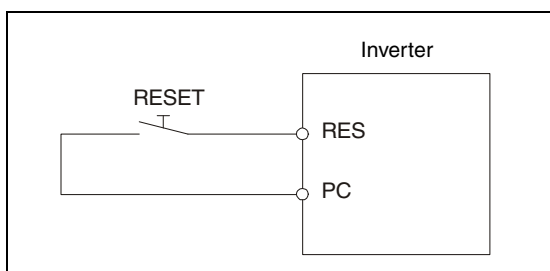

Fig. 7-3:
- Turn on the reset signal RES for more than 0.1s. (Connect the terminals RES and SD when using sink logic or terminals RES and PC as shown Fig. 7-3 when using source logic). (If the RES signal is kept on, "Err." appears (flickers) to indicate that the inverter is in the reset status.)